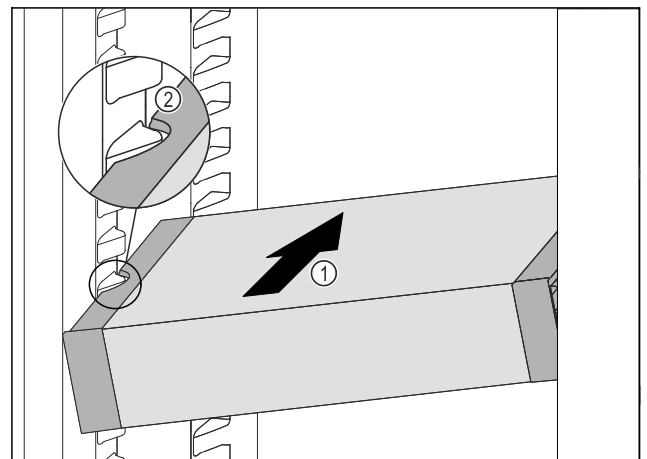

Fig. 161
- ▶ Insert the VarioSafe into the fridge section at an angle Fig. 161 (1) until the recesses in the side Fig. 161 (2) of the VarioSafe are at the level of the support rib in the fridge section.